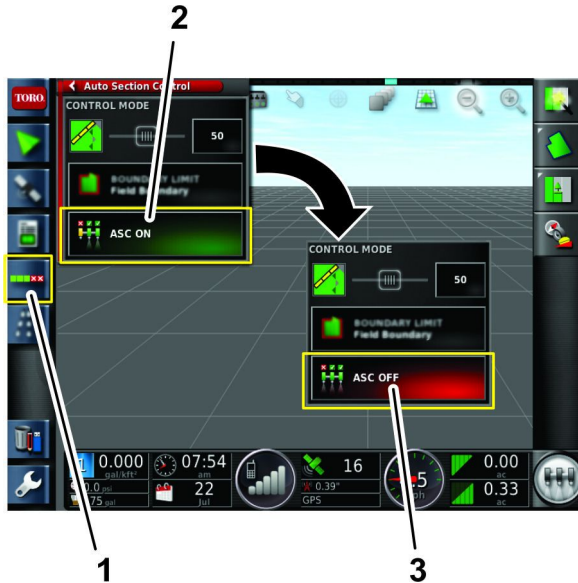

Figure 176
1. Open the ASC (Auto-section controller) icon (Figure 176).
2. Press the ASC icon to OFF (Figure 176).